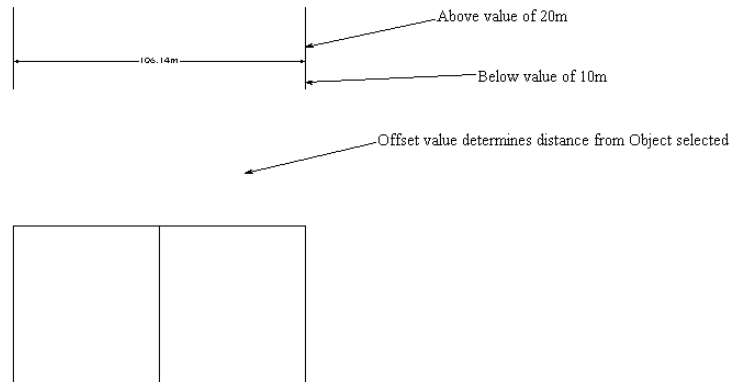

Figure 2-21 - Dimension Proximity
**Offset, Above, Below with Proximity Fixed on:** An “Offset”, “Above” and “Below” distance can be entered (see Figure 2-21). If the “Proximity Fixed” check box is checked: